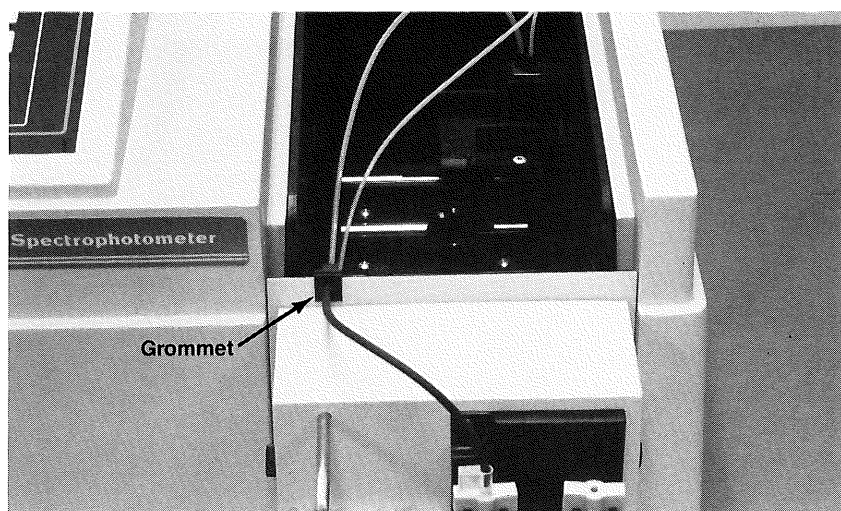

Figure 15.
18. Route the outlet tubing through the slot above the inlet tubing guide and fit the grommet in place. Attach the outlet tubing to the left-hand side of the pump. See Figure 15.